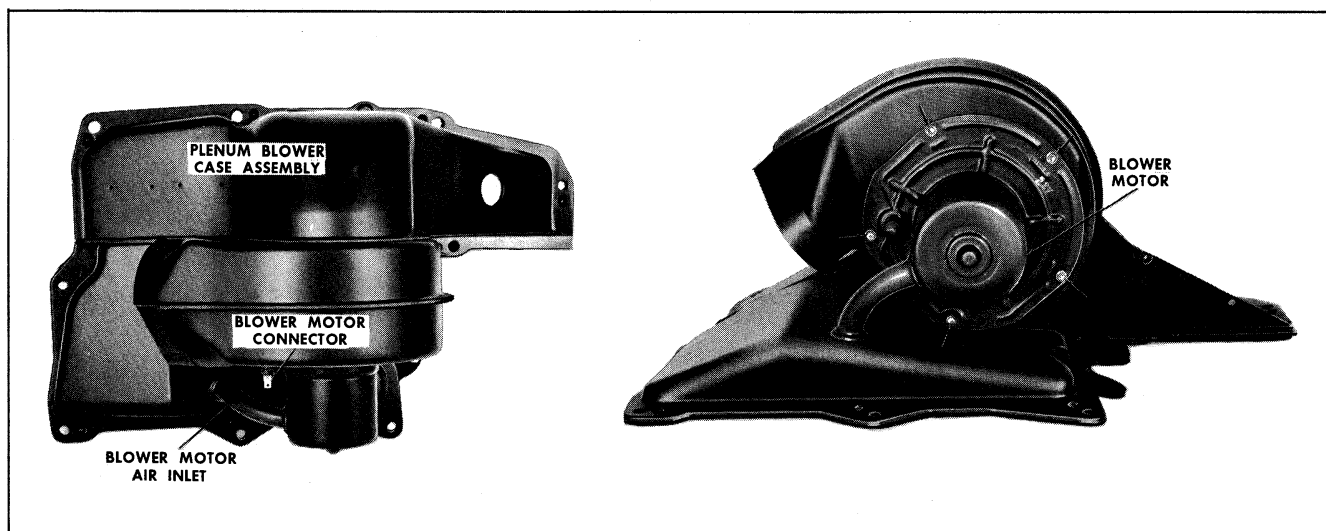

Fig. 9-2 Plenum Chamber and Blower Motor
4. To install reverse removal procedures (Fig. 9-2).